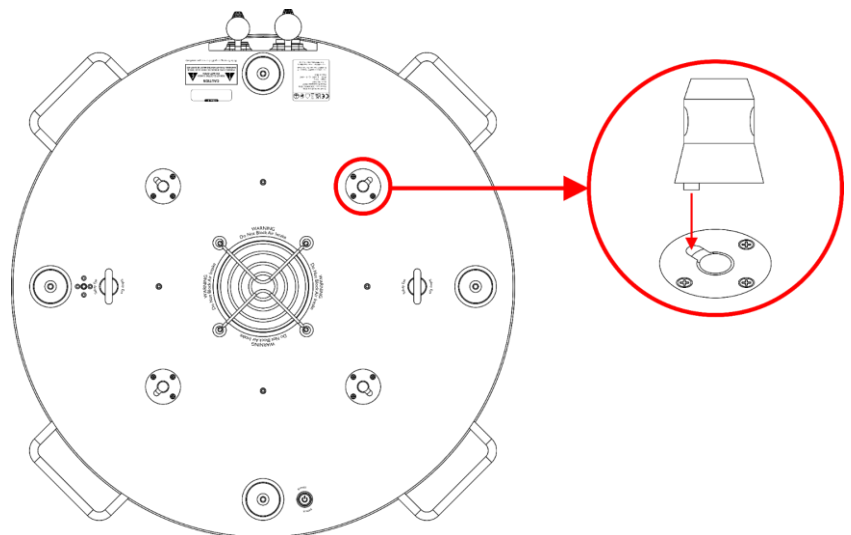

Fig. 08
- 01) Put the 4 half connectors (A) into the **mounting holes (10)** as shown in Fig. 08.